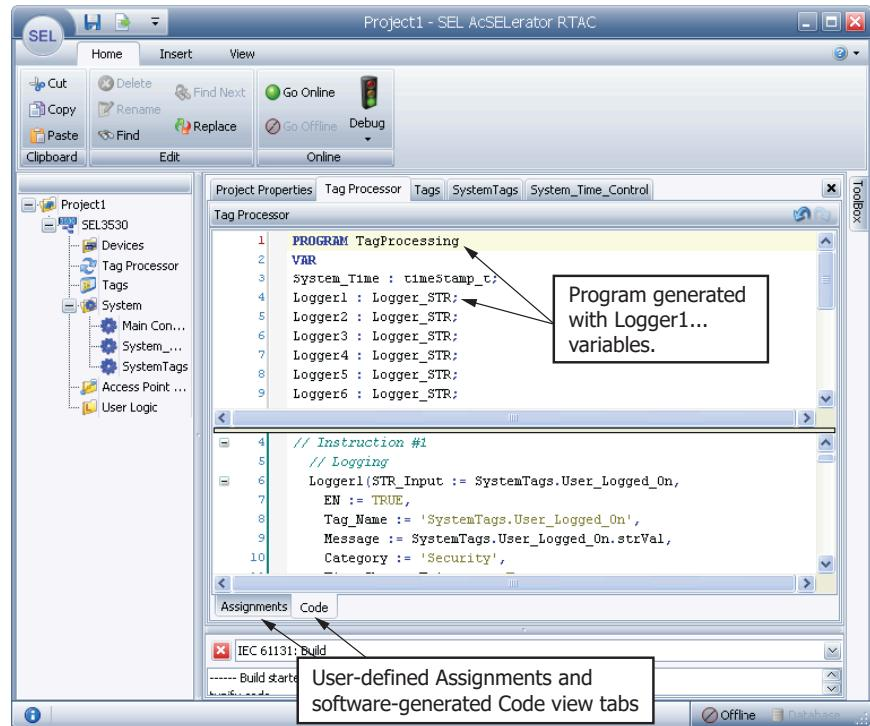

Figure 7.25 Tag Processor Code View
- Step 3. Click on the **Code** tab at the bottom of the Tag Processor to reveal the code that the Tag Processor generated (see *Figure 7.25*).